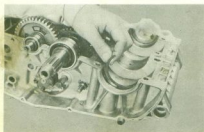

Fig. 3-12-9
- 2) Circlip Install the circlip half on the bearing (on the clutch side), Fig. 3-12-9 shows the position of the circlip installation.